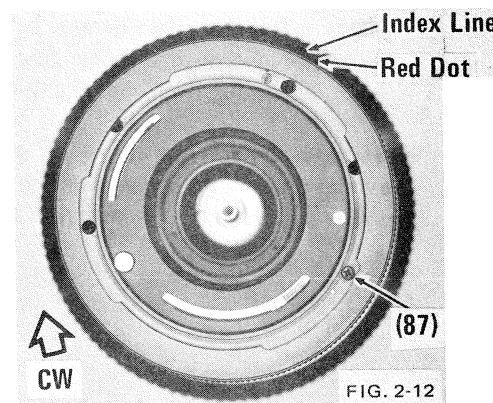

FIG. 2-12
d) Rotate locking ring clockwise to the mounting position. (red dot aligned with mounting pin and infinity index line); remove the remaining mount screw. Fig. 2-12.